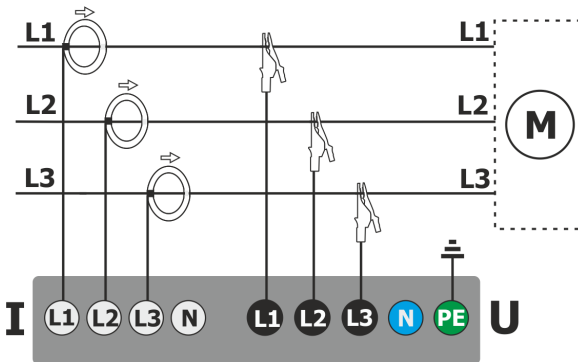
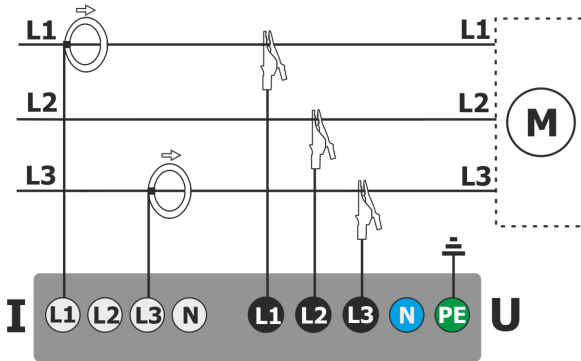

Fig. 61. Wiring diagram – 3-phase 3-wire, 3-phase open delta systems.
Fig. 62. Wiring diagram – 3-phase 3-wire Aron, 2-element systems (current measurement using Aron method).
- 3-phase 3-wire, 3-phase 3-wire Aron / 2-element, 3-phase open delta (Fig. 61, Fig. 62).
In three-wire AC systems, current may be measured by the Aron method (Fig. 62), which uses only two probes that measure linear currents  $I_{L1}$  and  $I_{L3}$ .  $I_{L2}$  current is then calculated using the following formula: